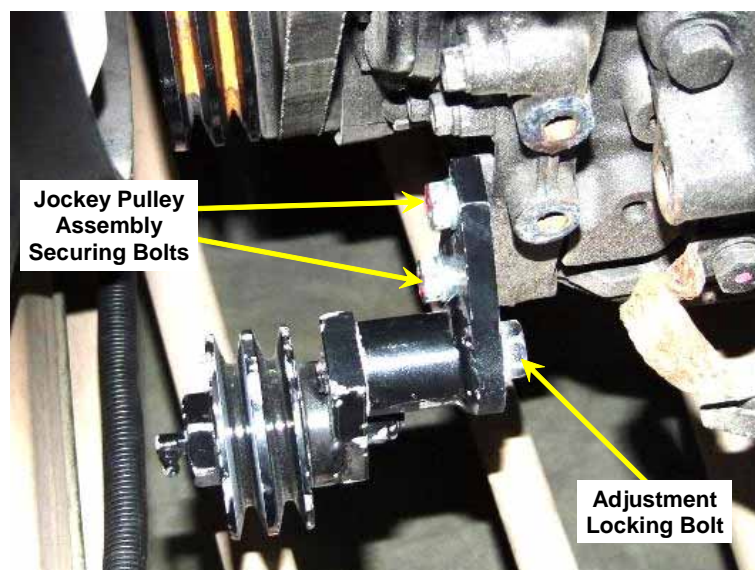

Figure 7 Jockey Pulley Assembly Fitted
- (4) Fit the Jockey Pulley Assembly (Table 1, Item 22) to the timing gear case using two M10 x 25 mm bolts (Table 1, Item 3) and two 10 mm lock washers (Table 1, Item 5) as shown in Figure 7.
- (6) Fit the two alternator V drive belts (Table 1, Item 21) around the crankshaft, jockey and alternator pulley grooves. Use the adjustable arm on the jockey pulley assembly to tension the belts so that there is a maximum of 5 mm to 10 mm deflection on the longest span of the belts and then securely tighten the adjustment locking bolt (see Figure 7).